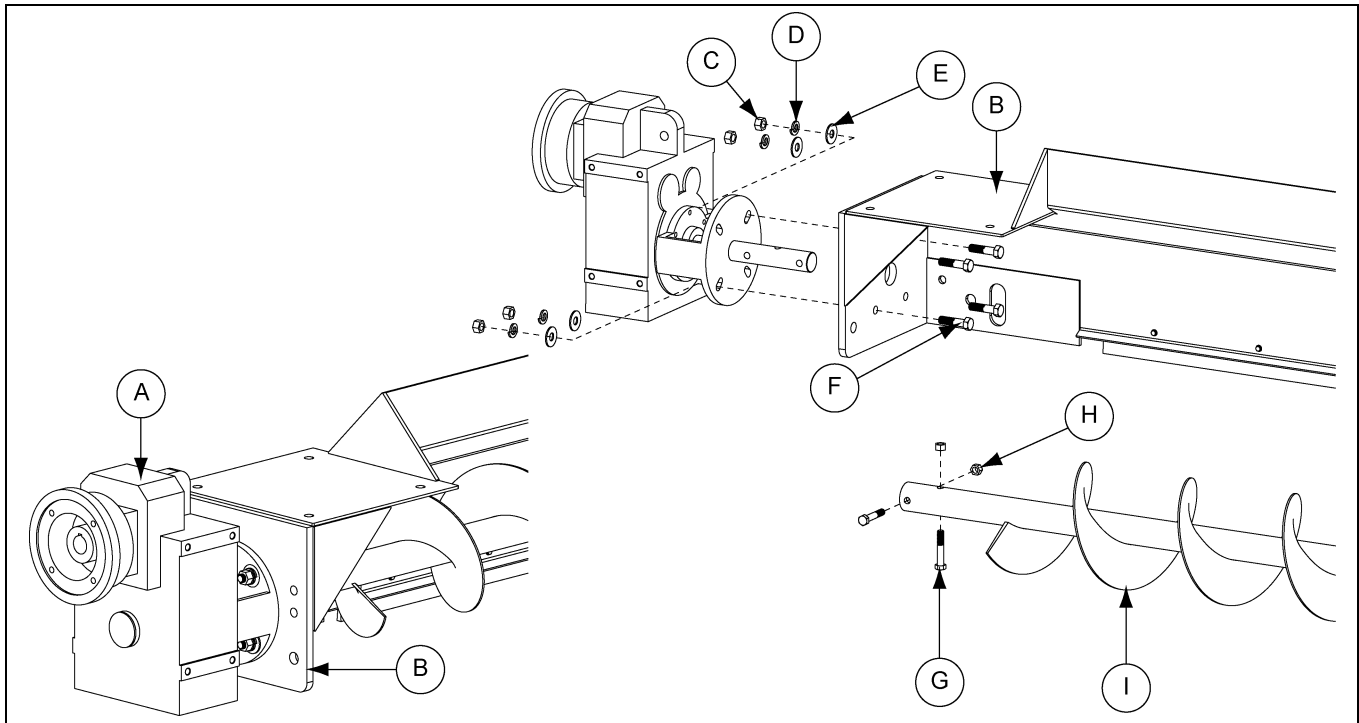

Figure 7V
1. Slide the output shaft of the gearbox (A) through the end plate of the head section (B) and into the end of the head flight section (I).
2. Bolt the gearbox to the end plate of the head section using hex bolts (F), flat washers (E), lock washers (D) and hex nuts (C). (See Figure 7V.)
3. Secure the gearbox output shaft to the head flight section (I) with hex bolts (G) and lock nuts (H). (See Figure 7V.)